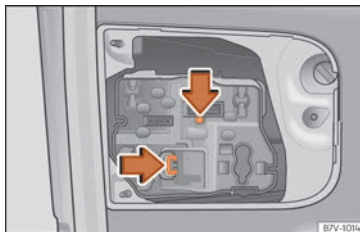

Fig. 114 On the rear lid: remove the bulb holder.
4. Press on the attachment tabs in the direction of the arrow »» Fig. 114 and pull out the bulb holder.